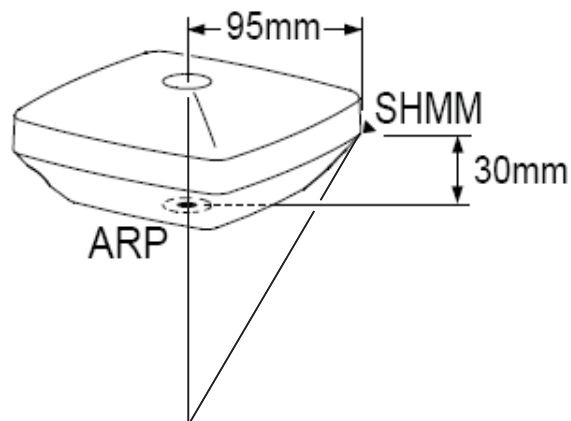

Figure 18: Antenna Height Measurement Points
1. Measure the antenna height above the control point or marker, either the slant height or the vertical height. You may either measure the vertical height to the Antenna Reference Point (ARP) located at the bottom of the receiver at the base of the mounting threads, or measure the slant height to the Slant Height Measurement Mark (SHMM) on the side of the receiver. For ARP and SHMM marks on the receiver, see Figure 18.